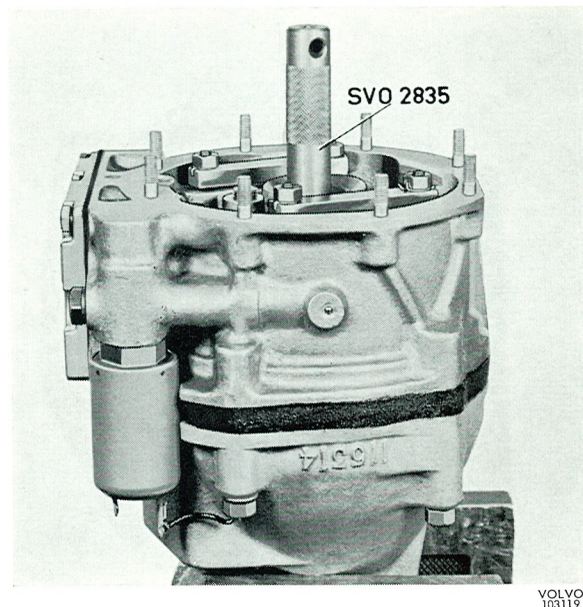

Fig. 4-68. Fitting the front casing
5. Install the brake ring on the front casing. Place the front casing on the rear one. Fit washers and nuts, see Fig. 4-68. Note that both the copper washers should be fitted on the upper bolts. Tighten the bolts a little at a time until they are tightened evenly all round.